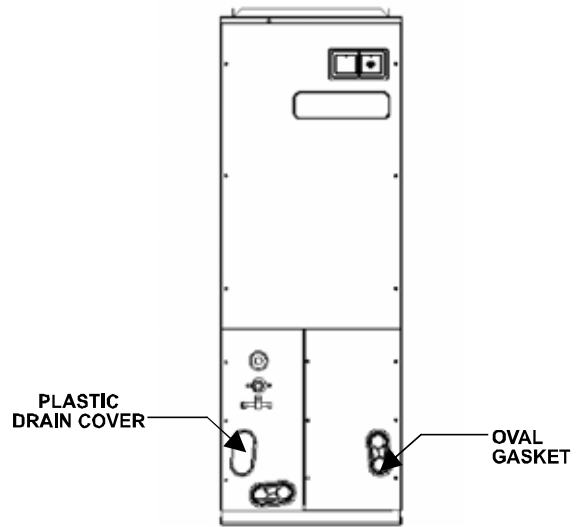

Figure 1
2. Remove J-shape metal bracket. Slide out from the air handler cavity the “A” coil pan assembly with horizontal drain pan on the right side. Remove oval gasket from horizontal pan drain and also remove the plastic drain cover from the lower left access panel. Figure 1.